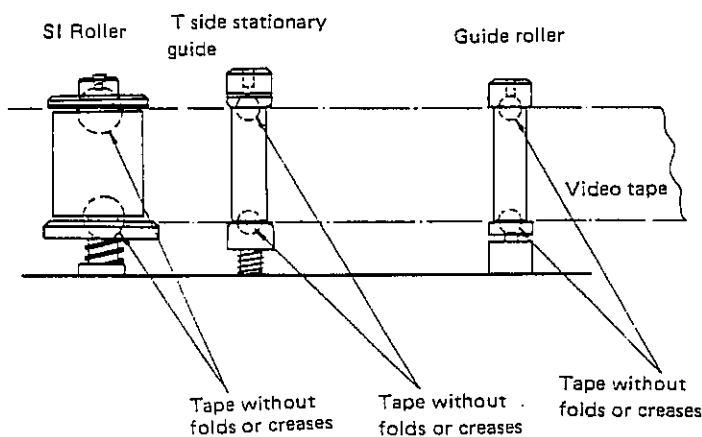

Figure 21
1. Check that the edge of the video tape is not folded or creased, as shown in figure 21, during the travel of the tape.
2. After adjustment is completed, always adjust the tape travel, and adjust the T and S guide rollers before carrying out the checks in figure 21.